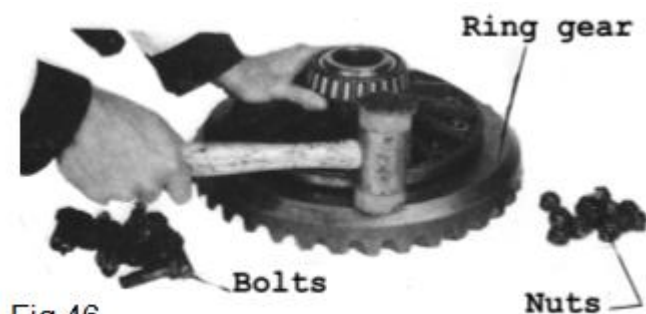

Fig 46
- * Remove the nuts and bolts and remove the ring gear (Fig. 46).